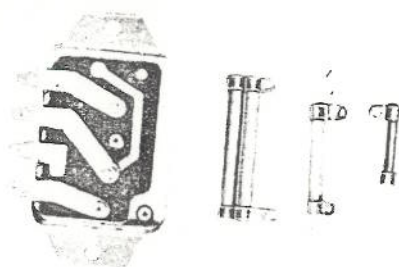

Fig. 10-136
- 2) Remove the resistors on the rear side of the voltage regulator. (See Fig. 10-136)